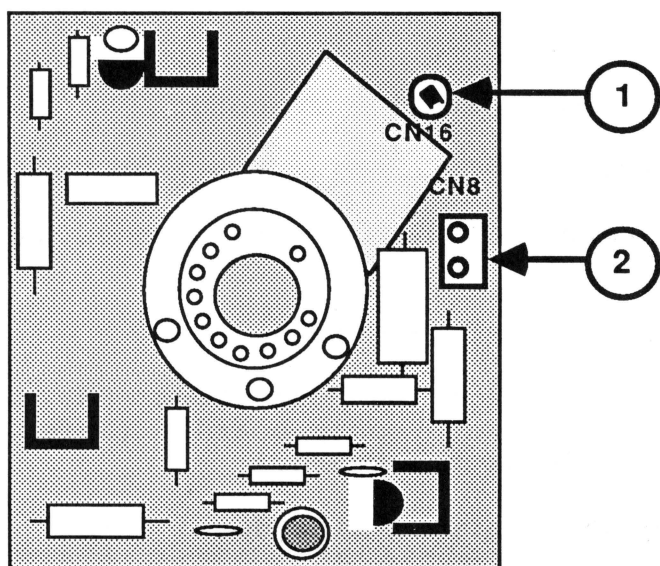

FIGURE 11
13. Turn the socket board so that you can see the component side, as shown in Figure 11.
14. Disconnect CN16 (Figure 11, #1) from the CRT socket board.
3. Turn the CRT socket board so that you can see the component side. (See Figure 11 on the preceding page.)
- a) CN8 -- Figure 11, #2 (the connector with two wires that are soldered at their other end to the logic board).
- b) Connect the remaining black single connector to CN16 on the CRT socket board (Figure 11, #1). This is the connector attached to the green CRT ground strap at the side of the monitor.